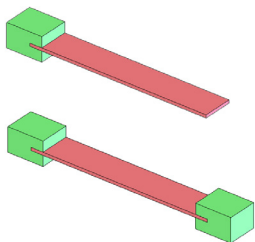

Figure 1: Cantilever beam (top) has lower stiffness than the same beam supported on both ends (bottom).
3. Part Support: A beam with a simple support is less stiff and will deflect more than the same beam with built-in supports as shown in Figure 1.